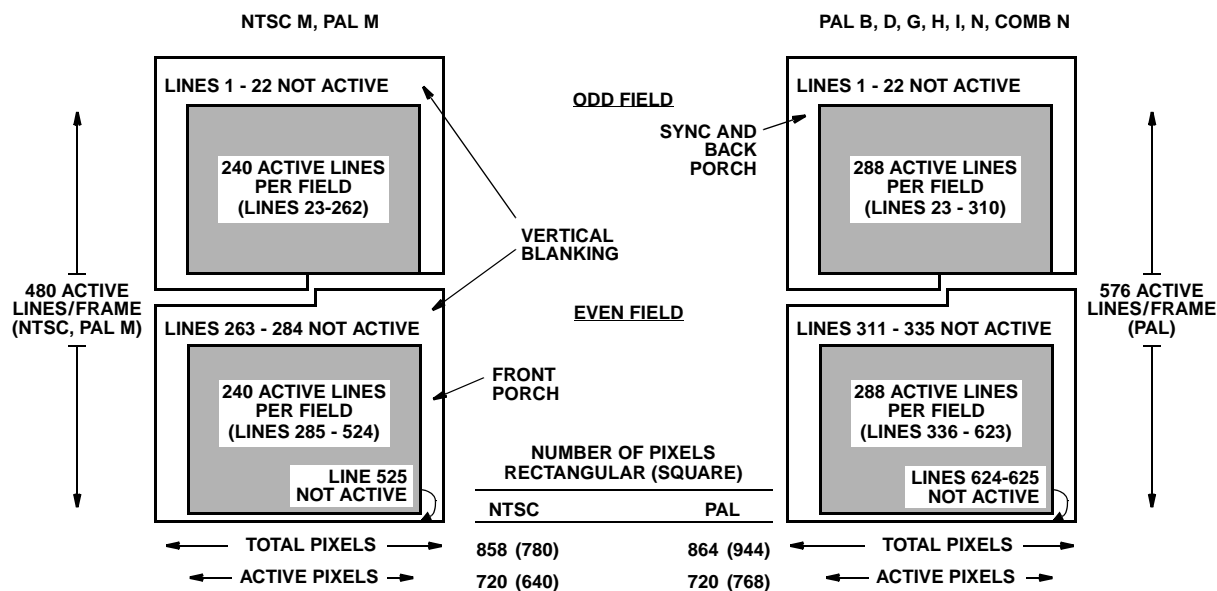

FIGURE 13. ACTIVE VIDEO REGIONS
In 16-bit Pixel Transfer Mode pixel data is output at the CLK frequency and Table 3 shows the number of data points per video line to expect for a given standard. Data is output as 4:2:2 subsampled data in a Y-Cb/Y-Cr 16-bit sequence. The Data Valid (DVLD) flag is asserted when video data is present on the 16-bit output port (Y[7:0], CbCr[7:0]). The luminance data is output on Y[7:0] bus. Chrominance data is sequenced on the CbCr[7:0] bus, starting with Cb and then Cr. Per Figure 13, the ACTIVE flag is asserted when the active video portion of the horizontal scan line is present on the data output port. See Figure 14 for 16-Bit Pixel Transfer Mode timing. DVLD is asserted every time the output sample rate converter has a valid output. When DVLD and ACTIVE are used together the visual portion of the image can be captured. When DVLD is used alone all valid data during the Horizontal, Vertical and Reference Burst Timing are available.
2. ACTIVE is asserted per Figure 13.
6. **DVLD** is asserted for every valid pixel during the active region only per Figure 13. **DVLD** may deassert briefly during the active video region as the Output Sample Rate converter adjusts the output timing for various data rates and clock frequency inputs.